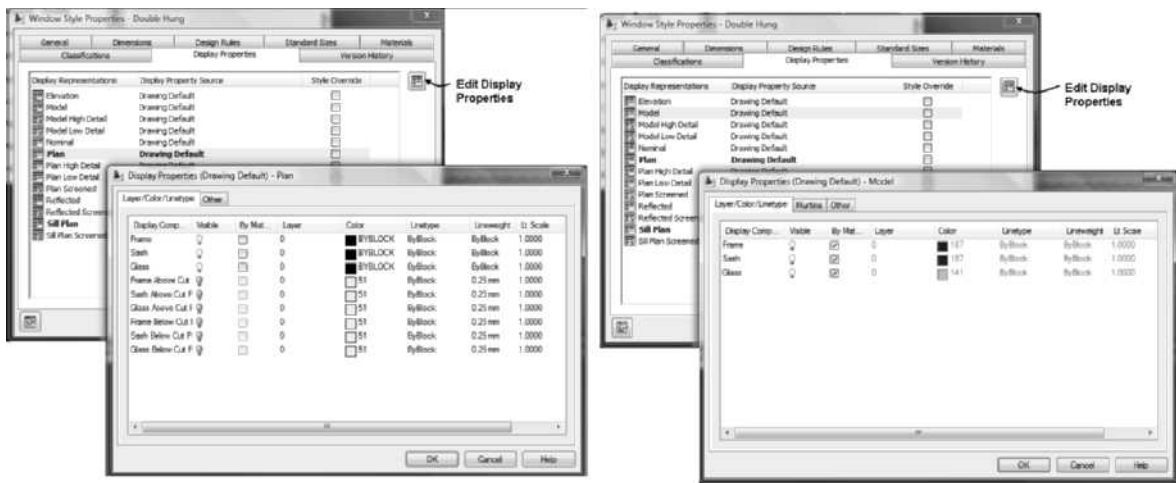
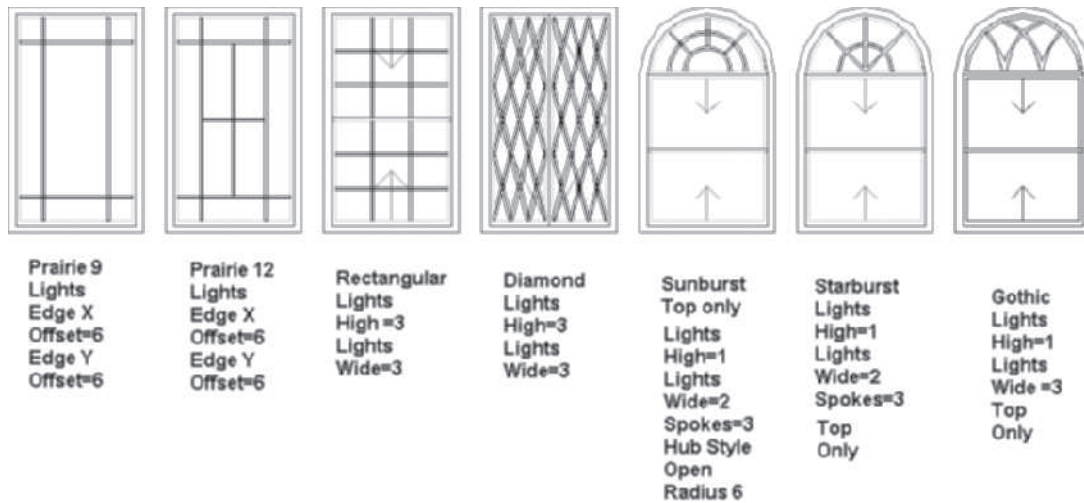
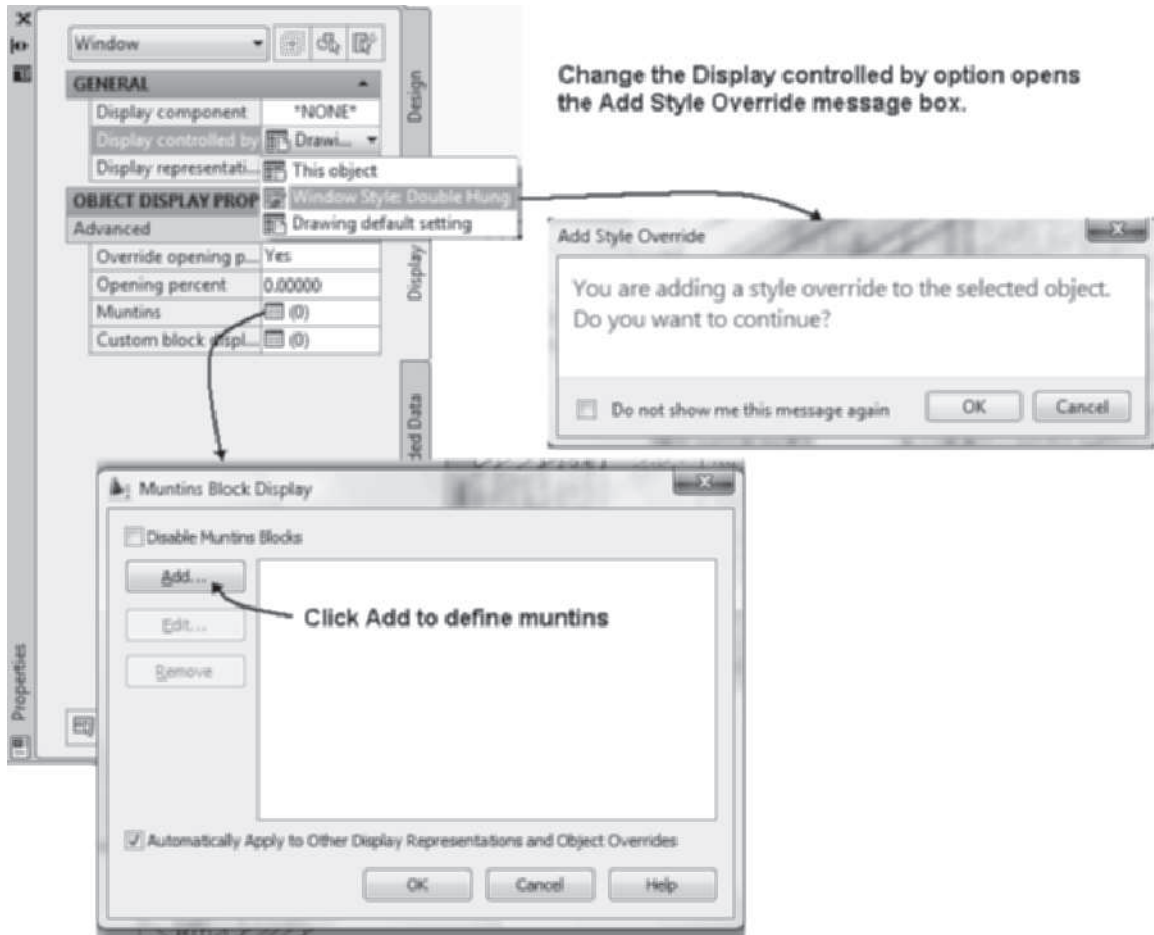
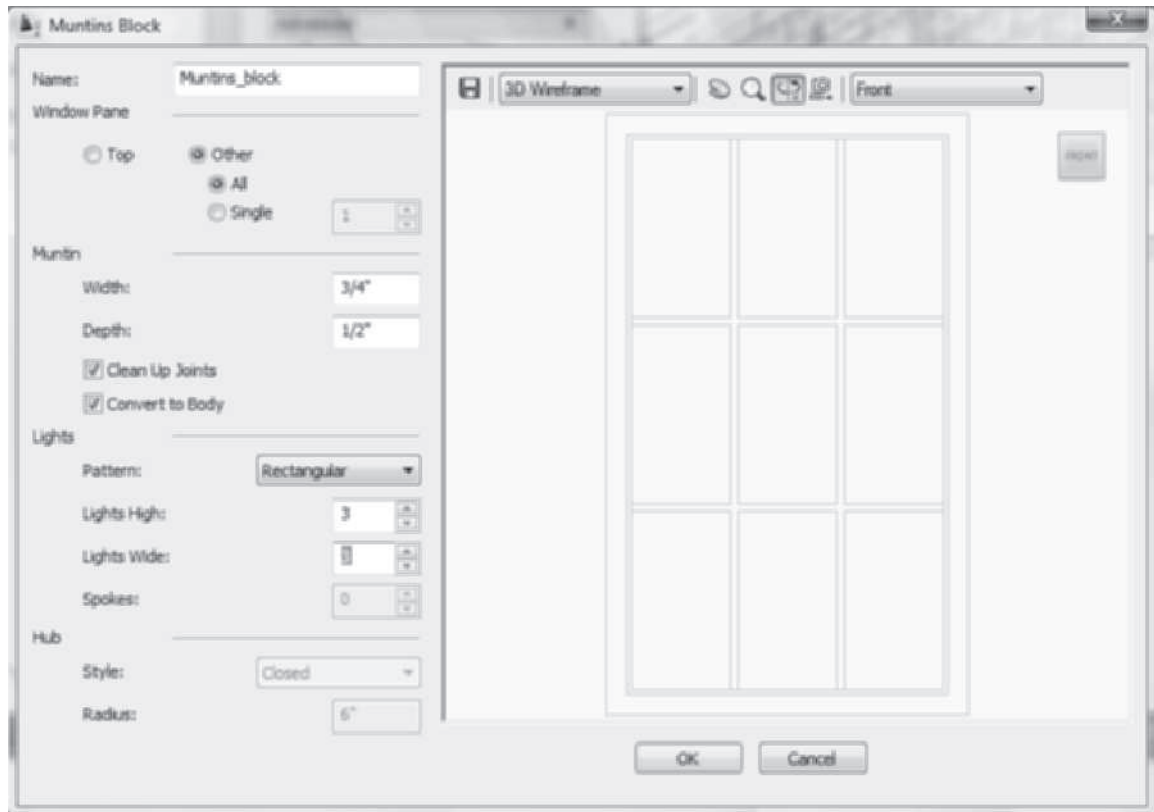

FIGURE 5.40 Display Properties tab of a window
FIGURE 5.41 Window muntins available using Display Properties
FIGURE 5.42 Creating Muntins from the Display tab of Properties
FIGURE 5.43 Muntins Block dialog box
13. Choose the **Display Properties** tab as shown at right in Figure 5.40. Choose the Plan display representation. Choose the Edit Display Properties button to open the Display Properties (Drawing Default) - Plan. The Frame, Sash, and Glass components are turned on for this display representation. Choose OK to dismiss the Display Properties (Drawing Default) - Plan dialog box.
14. Choose the **Model** display representation. Choose the Edit Display Properties button to open the Display Properties (Drawing Default) - Model dialog box as shown at right in Figure 5.40. The Model display representation consists only of three display components: Frame, Sash, and Glass. Choose OK to dismiss the Display Properties (Drawing Default) - Model dialog box.
The **Display Properties** dialog box for the Elevation and Model display representations includes a **Muntins** tab as shown in Figure 5.40. **Muntins** can be defined in the window style or in the object override display. Muntins divide the glass area of the window to make the window attractive. The muntin patterns can be Rectangular, Diamond, Prairie 9 Lights, Prairie 12 Lights, Starburst, Sunburst, or Gothic as shown in Figure 5.41.
Muntins are defined by editing the Elevation or Model display representations. You can access the Muntins tab from Display Properties dialog box as shown at the right in Figure 5.40. The elevation or model display representation is set current when the window is viewed in isometric or elevation view. You can also create muntins defined within a window style by the Display tab of the Properties palette. To create muntins from the Properties palette, select the window when viewed in isometric or elevation, right-click, and choose Properties. Choose the Display tab of Properties; edit **Display controlled by** to **Window Style**. When you specify Display controlled by Window Style, the Add Style Override dialog box opens as shown in Figure 5.42. Click the **Muntins** button to open the Muntins Block Display dialog box. When you click the **Add** button of the Muntins Block Display dialog box, the **Muntins Block** dialog box opens as shown in Figure 5.43.